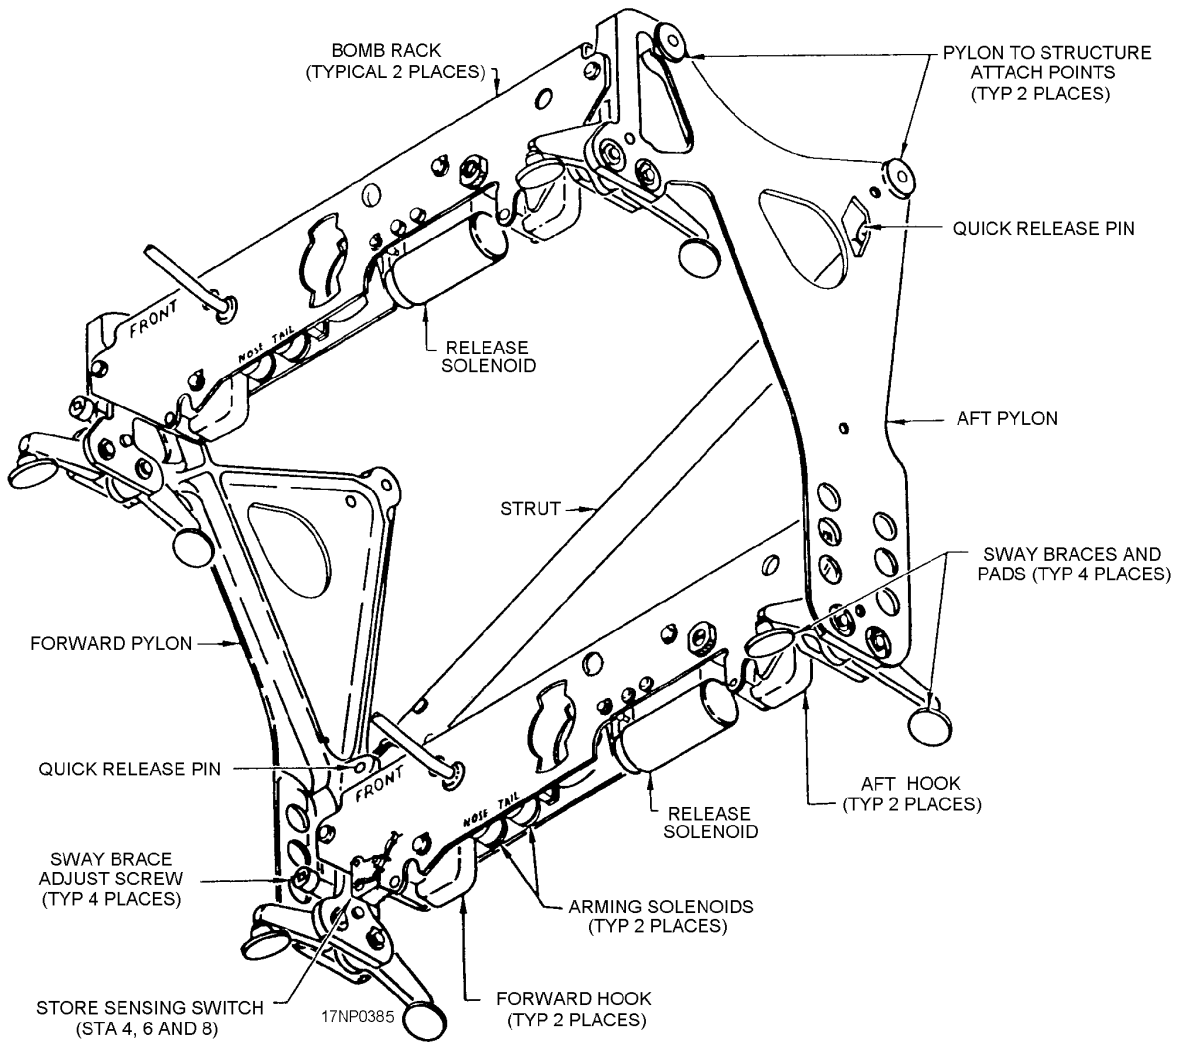
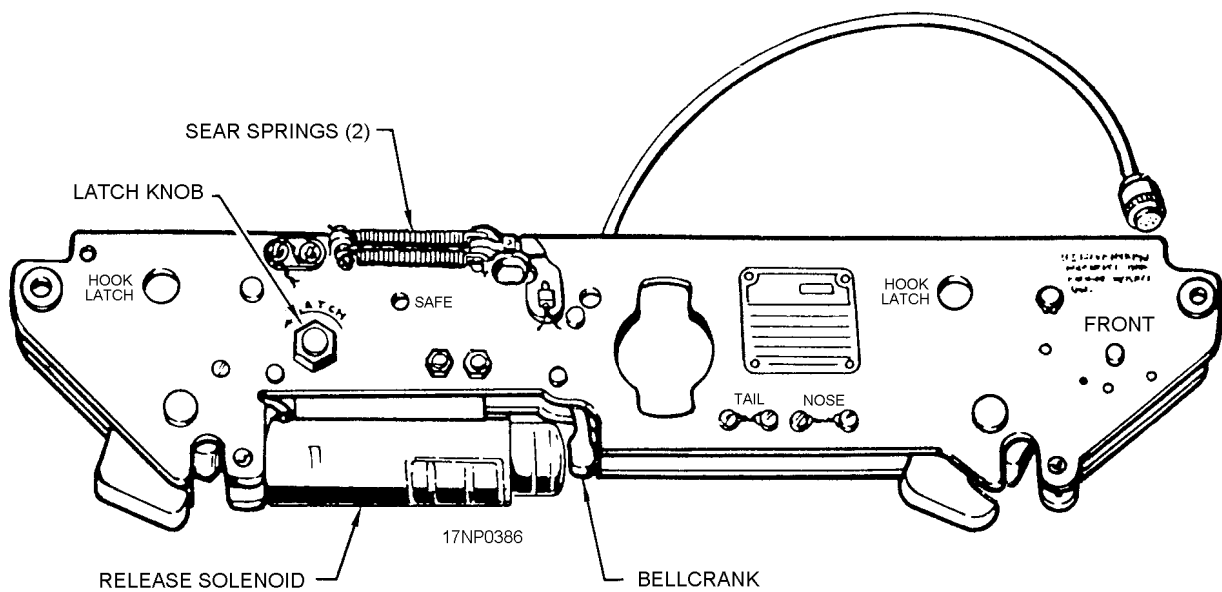
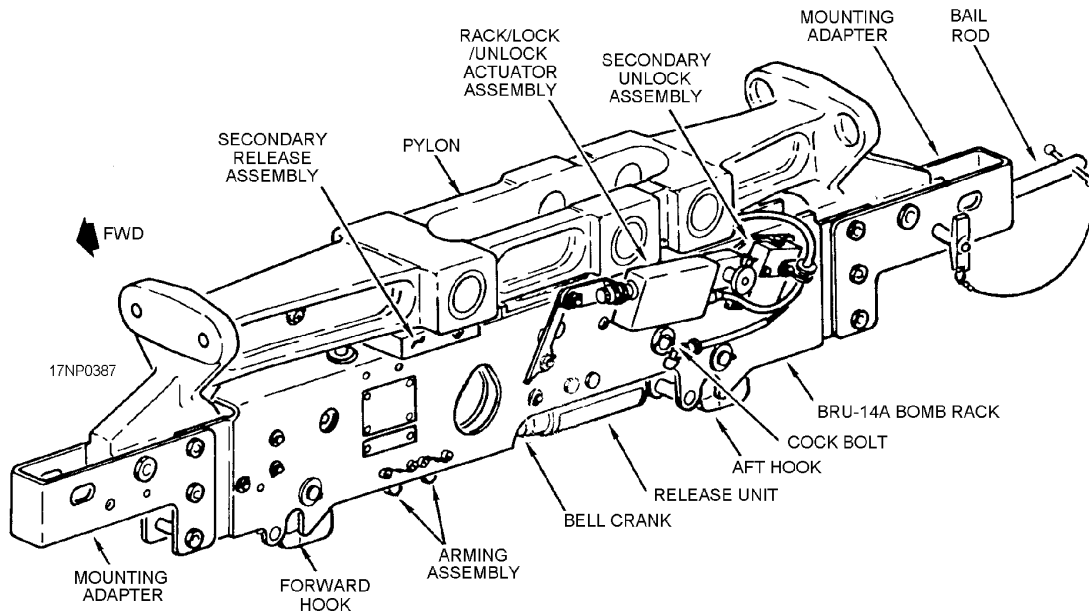
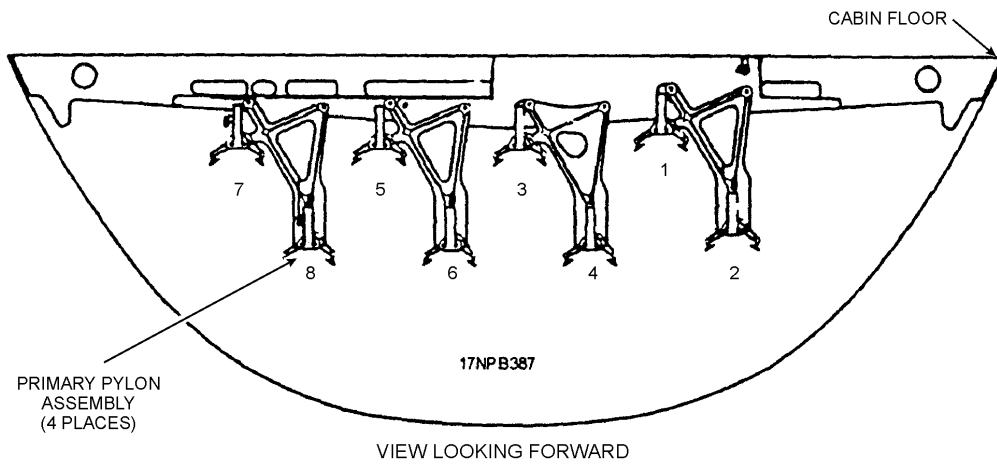

Figure 15-24.—Primary pylon assembly.
Figure 15-25.—BRU-12/A bomb rack.
Figure 15-26.—P-3 1,000- or 2,000-pound class store pylon assembly with BRU-14/A bomb rack.
Figure 15-27—Bomb bay configuration with four primary pylons.
**BOMB BAY CONFIGURATION.**—There are four primary pylon assemblies (fig. 15-24) provided for carrying a maximum of eight bomb bay stores. The pylon consists of two BRU-12/A bomb racks (fig. 15-25) mounted between two pylon ends. There are three 1,000- or 2,000-pound class store pylon assemblies (fig. 15-26) provided for carrying a maximum of three 1,000- or one 2,000-pound class weapon. The pylon assembly consists of a BRU-14/A bomb rack with mounting adapters on station 4C. The Aero 1A adapters provide the BRU-14/A bomb rack with 30-inch suspension and load capabilities. Figures 15-27 through 15-32 show the various wing stations and bomb bay equipment configurations.